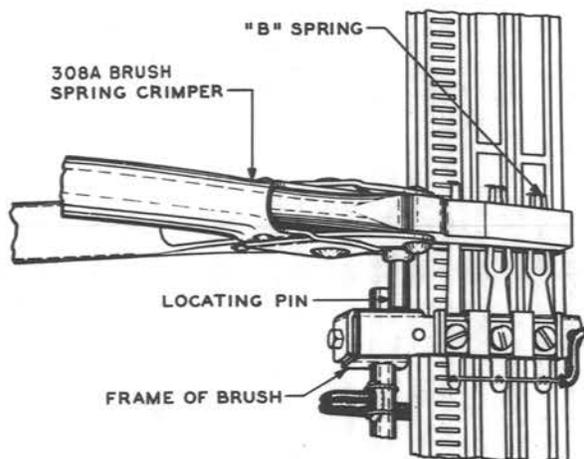

Fig. 13 – Method of Crimping the B Spring With the 308A Brush Spring Crimper
3.33 B Spring of Brushes Used With the 3G Commutator (where wiper is not furnished): To meet the requirements covering the setting of the B brush spring on the commutator, crimp the B spring as follows. With the brush in the normal or down position, grasp the 308 brush spring crimper loosely in the right hand and introduce the straight jaw between the front spring of the brush and the right-hand side of the commutator about 1/8 inch below the contact portion of the spring. Hold the tool so that the jaw is parallel to the surface of the commutator and thrust it to the rear as far as it will go. Then lower it until its locating pin rests on the top of the frame and its shoulder rests against the front edge of the commutator as shown in Fig. 13. Holding the tool so that the jaws are horizontal, close the jaws steadily and firmly to a complete stop so that the crimp is formed and the portion of the spring above the crimp lies in the same plane as the portion below it. Make sure that the spring is located properly as covered in Section 026-120-701.